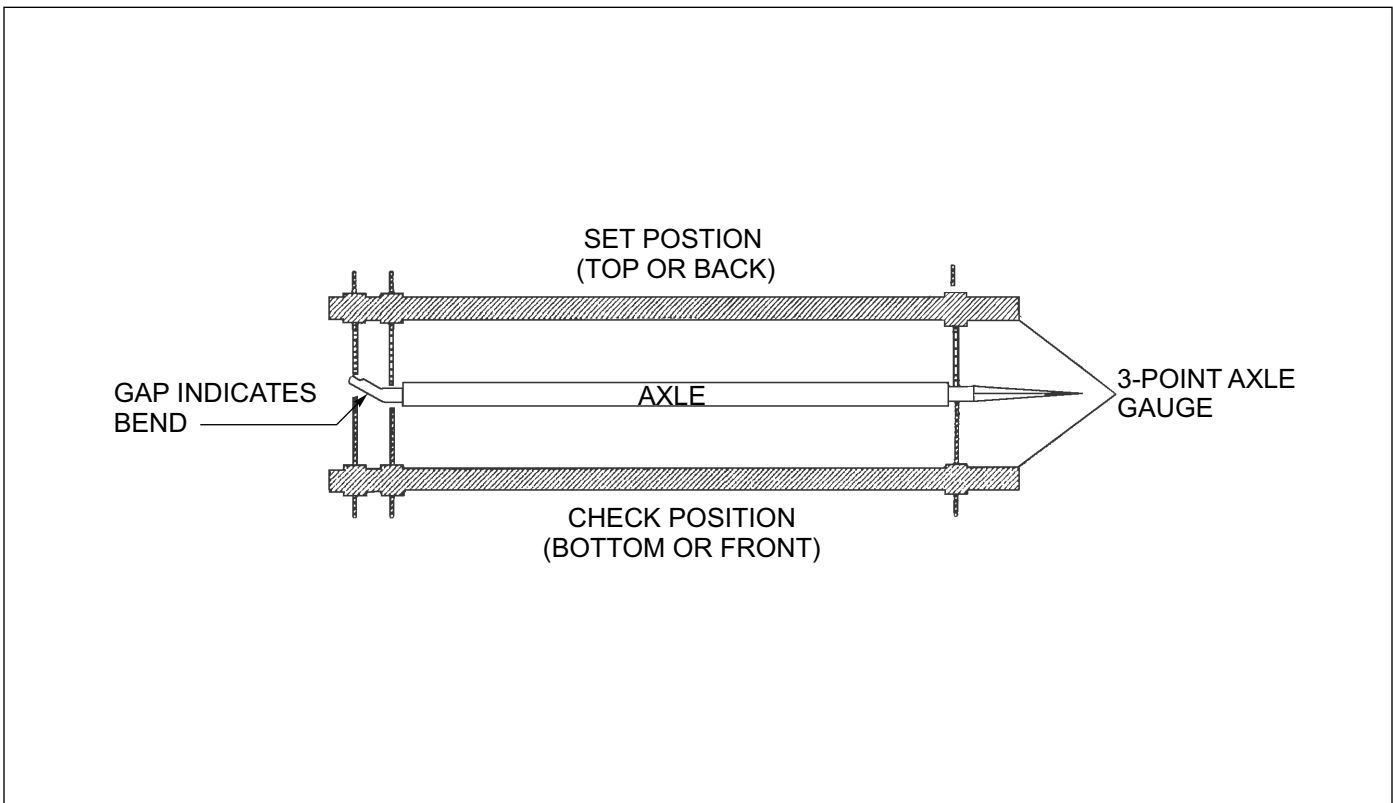

Figure 4-9: Checking Axle for Bend
2. Place a 3-point axle gauge against the front side of the axle, and adjust each axle gauge point to the axle. (Double point end against the inner and outer wheel bearing surfaces of the spindle being checked and the other point on the inner bearing surface on the other spindle **(See Figure 4-9.)**)
3. Move the axle gauge and place against the back side of the axle. If either of the points of double point end fails to touch the axle surface, a bent spindle is evident. A point gap of .015" or more is considered excessive tire "toe" and the axle must be replaced **(See Figure 4-9.)**